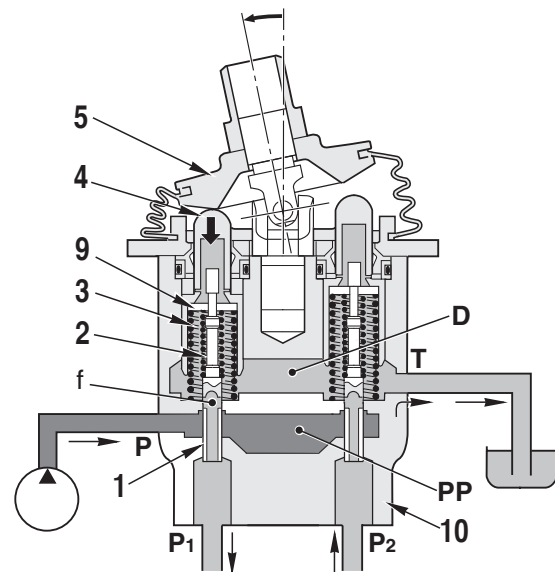

Fig. 2
Therefore, metering spring (2) is compressed proportionally to the amount of movement of the control lever, so the pressure at port **P1** also rises in proportion to the travel of the control lever. (Fig. 2)